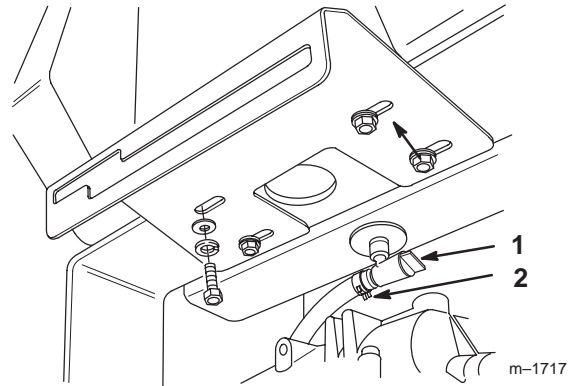

Figure 31
2. Close fuel shut-off valve at fuel tank (Fig. 31).
3. Squeeze the ends of the hose clamp together and slide it up the fuel line away from valve (Fig. 31).
4. Pull the fuel line off the valve (Fig. 31). Open fuel shut-off valve and allow gasoline to drain into a gas can or drain pan.
6. Open fuel shut-off valve at fuel tank (Fig. 31).